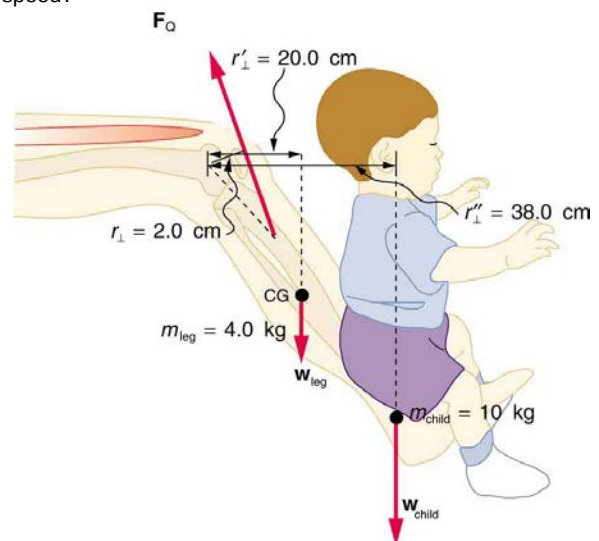

Figure 9.44 A child being lifted by a father's lower leg.
34. A father lifts his child as shown in **Figure 9.44**. What force should the upper leg muscle exert to lift the child at a constant speed?